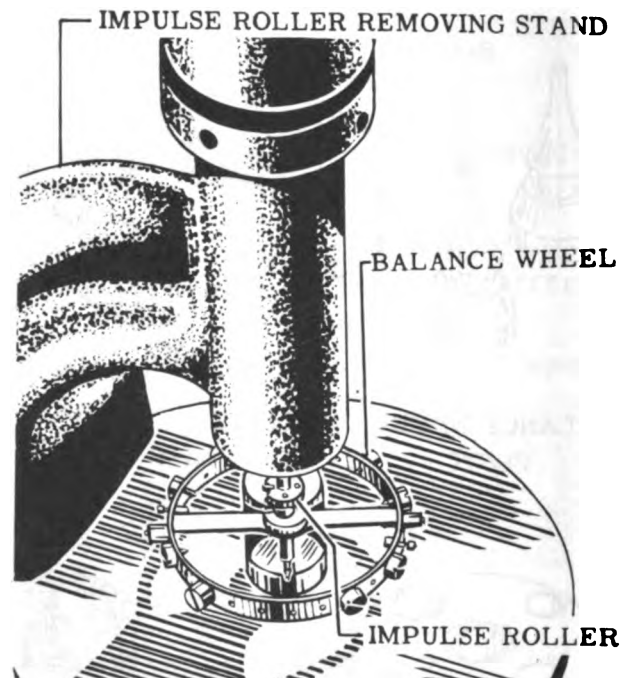

Figure 40
- Remove impulse roller, using roller removing stand, Tool No. 4. See Fig. 40.